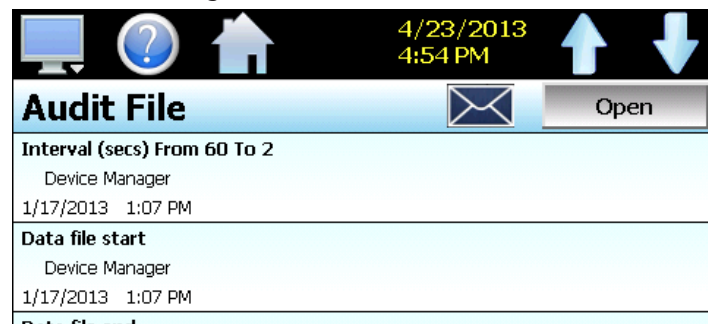

Fig. 39: Audit Screen
2. At the Audit File screen (Fig. 39), press the OPEN button, select a file (Audit file names are listed as month_day_year), press Open.